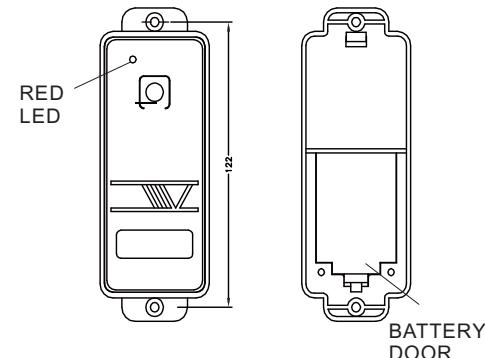

FIG. 1
4. USE PENCIL TO MARK THE SCREW HOLES FOR THE BELL KEY. (SHOWN IN FIG. 1)
2. OPEN THE BATTERY DOOR. (SHOWN IN FIG. 1)